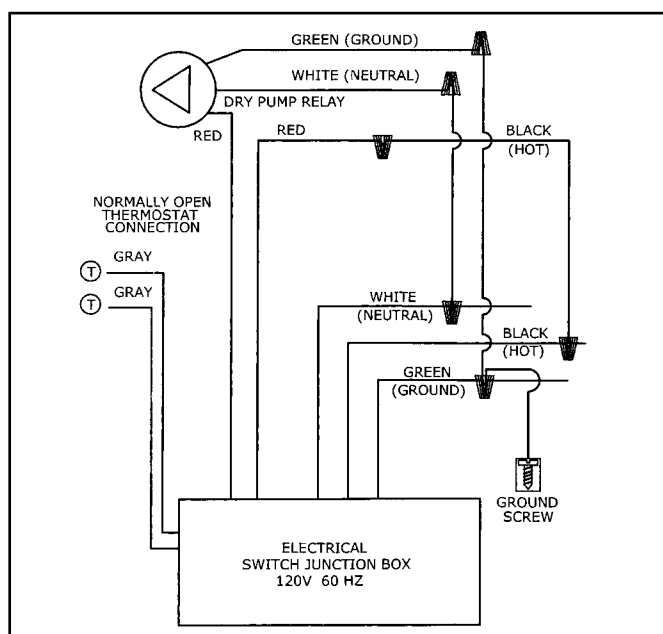

Figure 6.1: Connection Wiring with Circulator Relay
1. Refer to Figures 6.1 and 6.2 for power supply connection to boiler. Use #14 AWG size wire.
4. The boiler is supplied with a burner service switch. When referring to Figures 6.1 and 6.2, wire the burner service switch in the (HOT) line to boiler.
8. For connection to system circulator and room thermostat refer to Figures 6.1 and 6.2. Thermostat anticipator setting is 0.56 amp.